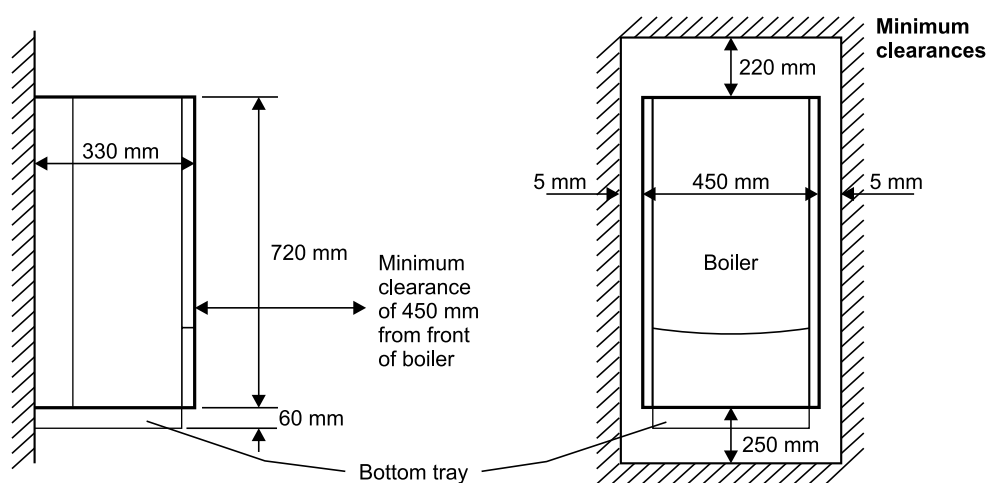

Fig. 8
4.2 CLEARANCES REQUIRED - Fig. 8